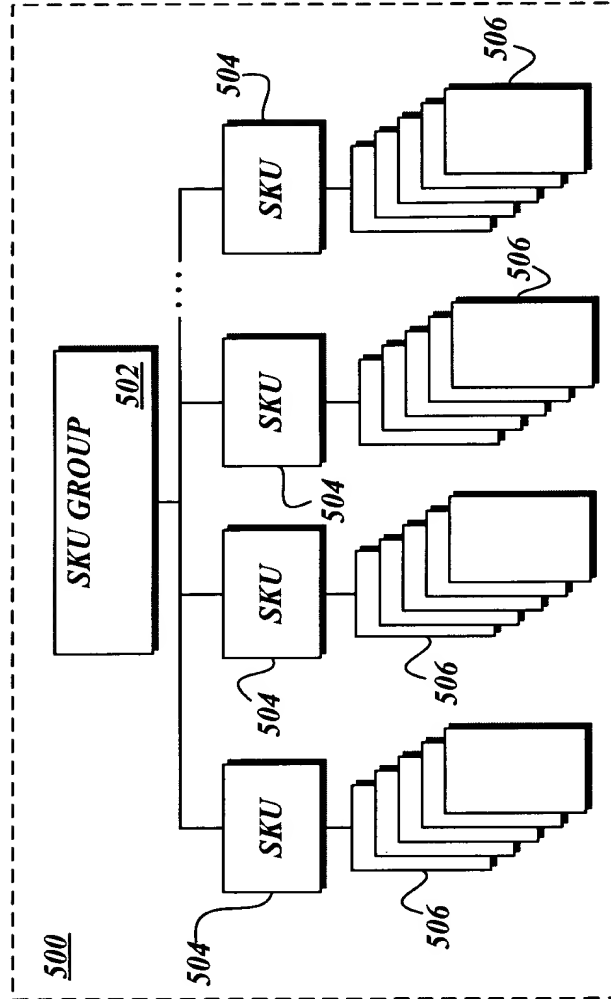

Fig.5.
Fig. 5 is a block diagram of a system 500 for managing inventory. The system 500 includes a SKU group 502, which is connected to a plurality of SKUs 504. Each SKU 504 is connected to a plurality of items 506. The system 500 is configured to manage inventory for the items 506 based on the SKUs 504 and the SKU group 502.